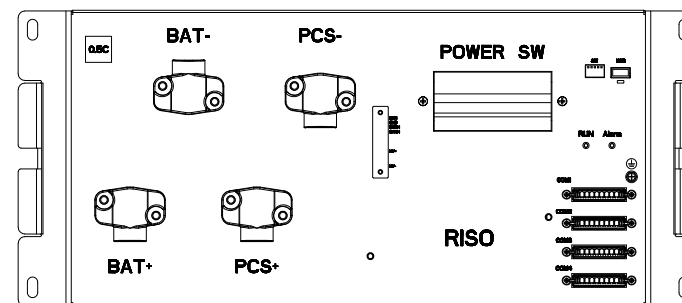

Figure-21 BPU-0.5C front interface
2) According to the wiring position shown in Figure-21, each cluster is connected to the battery module communication line in the S-shape from the lower right corner.